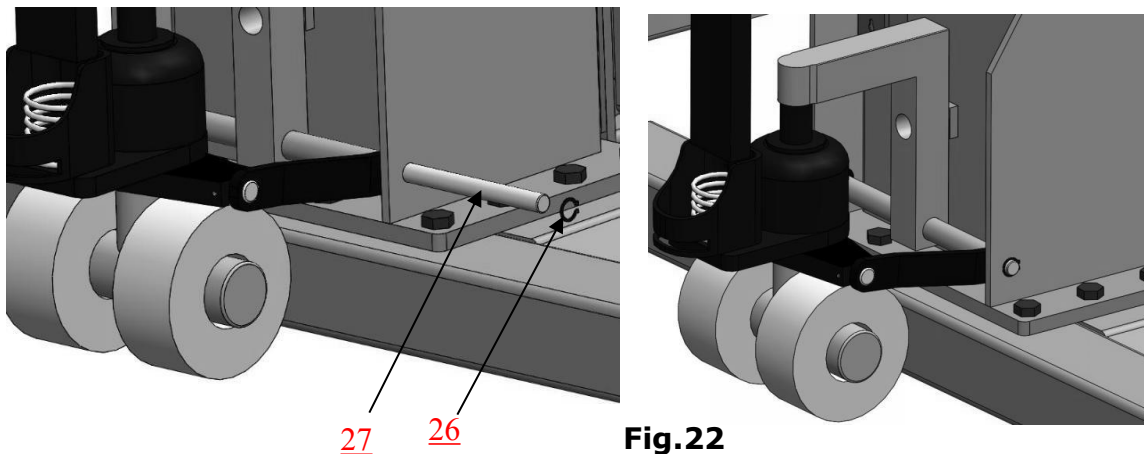

Fig.22
3. Use wheel assembly pin go through the fixed square pipe, then buckle with spring. (**Fig.22**)